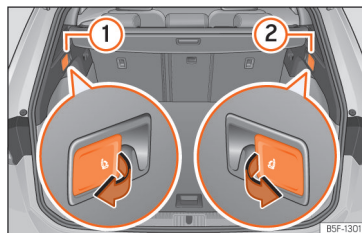

Fig. 103 In the luggage compartment: levers to unlock the rear backrest.
- Pull the remote release lever of the left »» Fig. 103 ① or right ② parts of the backrest in the direction of the arrow. The released part of the rear seat backrest is folded automatically down and forwards.